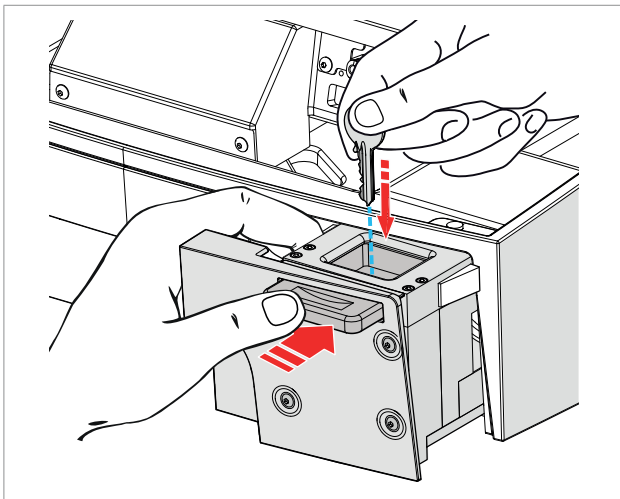

Fig. 98
- 3) Use the other hand to insert the key to be read (Fig. 98).